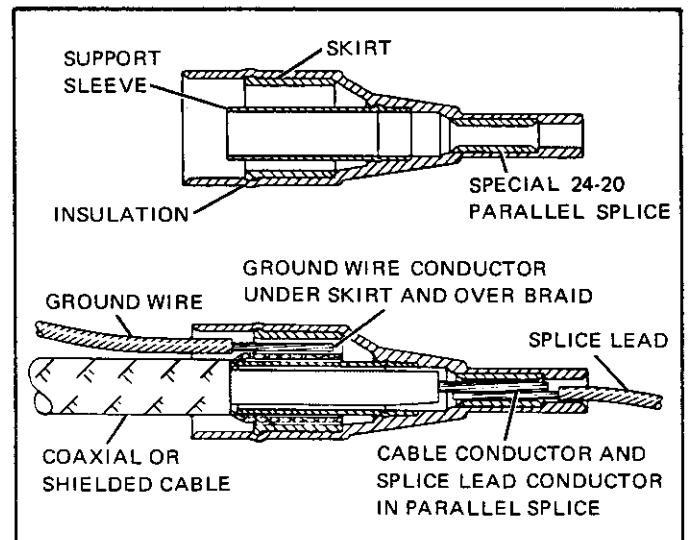

Figure 2
2.2.1 Cable Insertion (Refer to Figure 2)
- Stripped conductor of cable must enter parallel splice as shown in Figure 2.
(Refer to Figure 2)